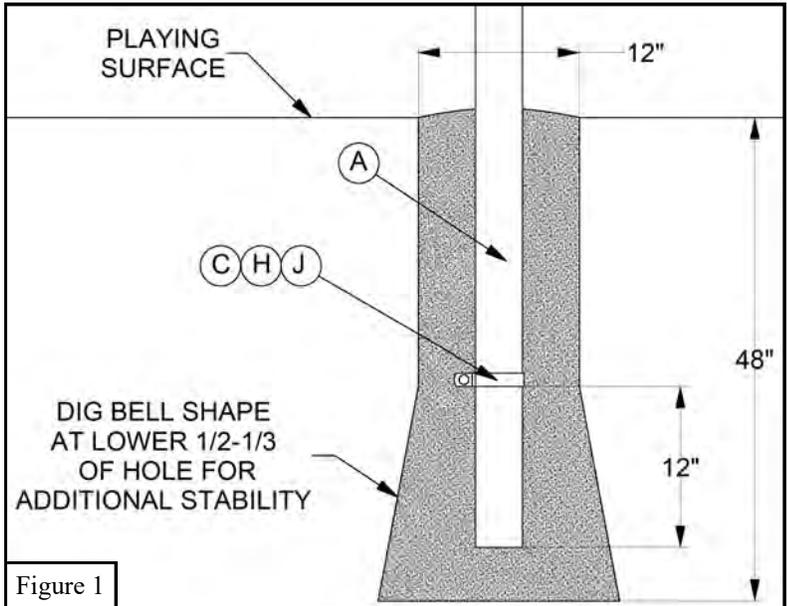

Figure 1
2. Select the location for the concrete base footing. Note that the face of the *Backboard* (Q) will be approximately 48" from the center of the footing for a BA777 Pole and 60" for a BA777XL Pole. Dig a 12" diameter hole that is 48" deep. Remove additional soil from the bottom 1/3-1/2 of the hole in a bell shape to add pole stability. In areas where the normal frost line is below 48" it is advisable to dig to the normal frost line. See Figure 1.
3. Make sure that you have a level and a broomstick or similar pole to vibrate air pockets out of concrete. A 12" diameter by 36" deep hole with a bell bottom will require approximately 4 cubic ft. or 3000 PSI *Quick Dry Concrete* (T). You will need to adjust the amount depending on the size of hole you prepared. Having too much is better than having too little.
- Attach one *Band Clamp* (C) with $5/16'' \times 2''$ *Carriage Bolt* (H), and $5/16''$ *Flange Nut* (I) approximately 12'' from the bottom end of pole and insert pole into concrete while vibrating concrete to allow it to surround the pole completely. The horizontal extension section of the pole should be parallel to the playing surface, perpendicular to the intended court end line and the lower surface of the horizontal portion of the tube should be 9' 6 1/2'' above the playing surface. You will need to brace the pole to maintain this dimension to insure the rim height will be at official 10'. See Figure 1 & 2